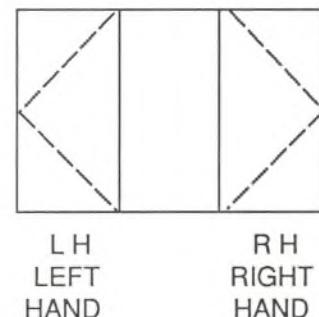

Fig. 14.8 Manufacturers' designation for right- or left-hand opening window. (Elevation view)
2. Casement windows can be obtained with panels which open on either the right or left side, or on both sides. Fig. 14.8 is an elevation view of a casement window with a fixed glass center panel and two openable panels. The dashed-diagonal lines indicate the direction in which the two panels swing.